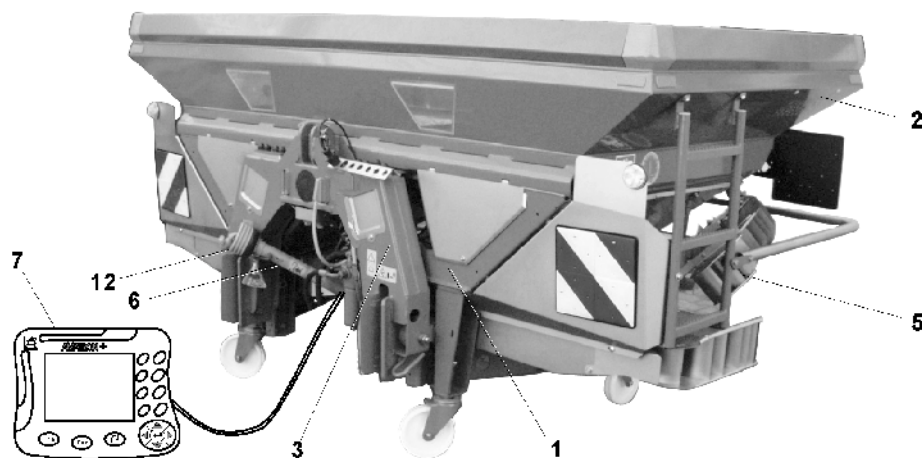

Fig. 3
- Frame (Fig. 3/1)
- Hopper (Fig. 3/2)
- Weighing frame (Fig. 3/3)
- Boundary spreading device Limiter (Fig. 3/5)
- PTO shaft (Fig. 3/6)
- On-board-computer Amatron+ (Fig. 3/7) (Option).
- PTO shaft guard (Fig. 3/12)